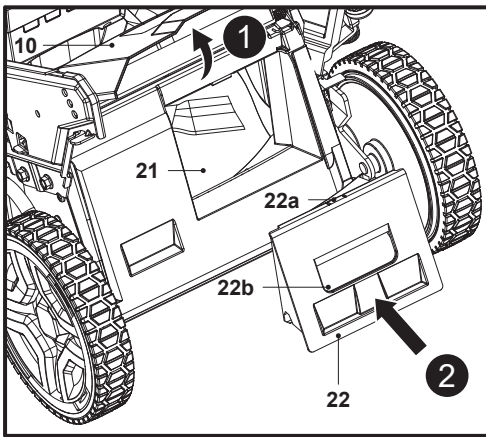

Fig. 14
**NOTE:** Mulching means cutting and returning the grass clippings to the lawn in one step: the grass clippings are cut very fine and then distributed evenly back onto the lawn. Under normal conditions, the mulched grass will biodegrade quickly to provide nutrients to the lawn. Do not attach the grass catcher (19) and the mulching insert (22) at the same time.
1. Open the deflector guard (10), hold the recess handle (22b) in position and insert the mulching insert (22) into the rear discharge chute (21) (Fig. 14). Ensure the locking latch (22a) snap into the rear discharge chute (21).